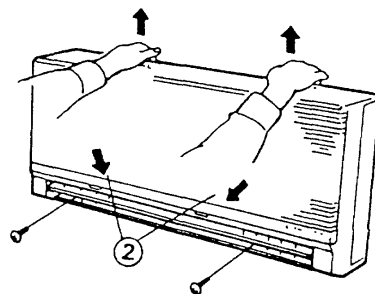

Fig. 1
- 2) Pull up the casing by hand, press down on tabs on top, then withdraw the casing by pulling it back straight. Fig. 1.
When replacing the removed casing as it was before, push two positions as shown in Fig. 1 ② until the casing clicks properly.